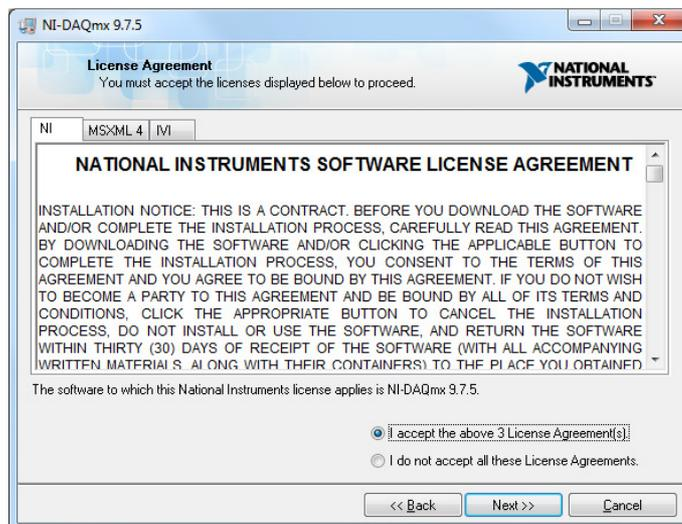

Figure A.5 NI-DAQmx licence agreements.
- Continue through the installer questions, shown in Figures A.5 to A.6. If you are unsure whether or not to allow the National Instruments software to access the Internet (Figure A.5), e.g. for updates, then you should contact your IT support. The licence agreements must be accepted for the software to be installed but you should make sure that you are familiar with them.